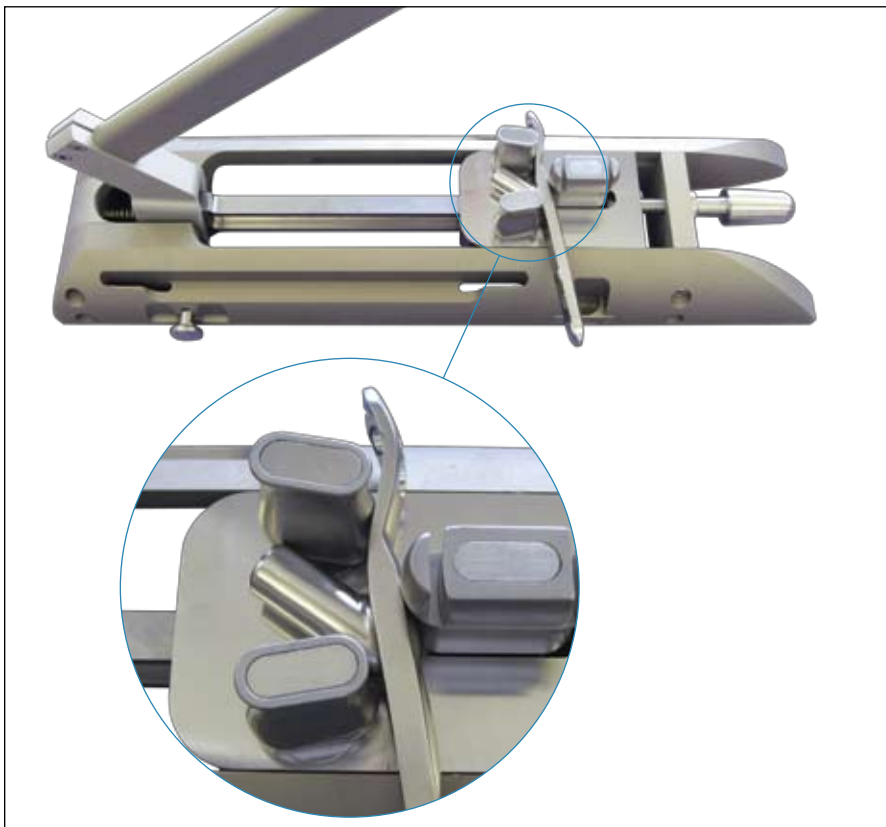

Fig. 2: Bending of the Omega3 Trochanteric Stabilizing Plate with the Table Plate Bender – please refer to the notes on this page.
**Note:** Bending is only allowed in the region where no Locking Holes are affected (see Fig. 2). Never bend the area of the shaft of the plate or the barrel-to-shaft transition. Be careful not to overbend and never bend back because this might weaken the plate.